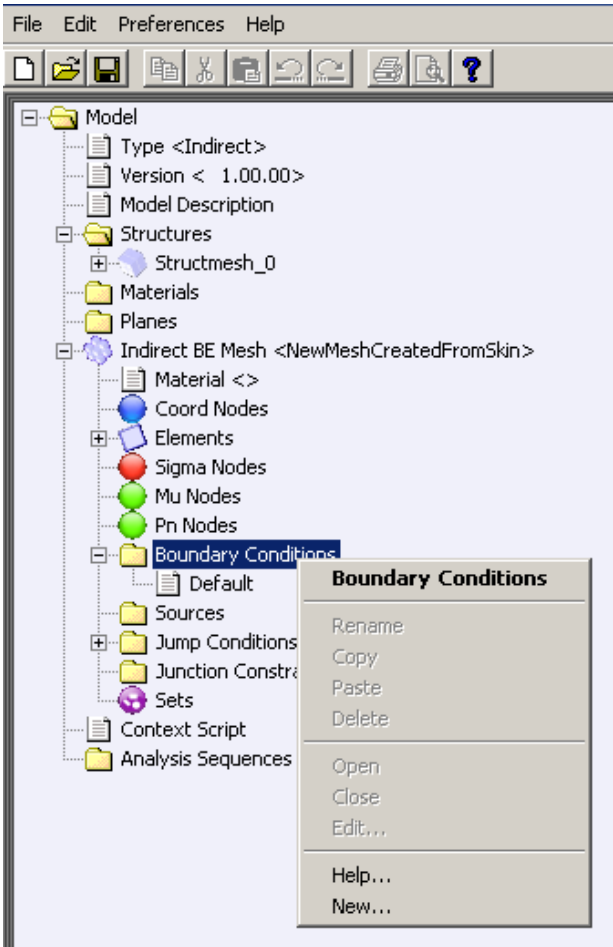

Figure 4.25: Create Boundary Conditions
- **Define a New Boundary Condition** Right-click on **Boundary Conditions** and select: **New** and proceed with entering new parameters information. Click OK to accept. (Figure 4.25).